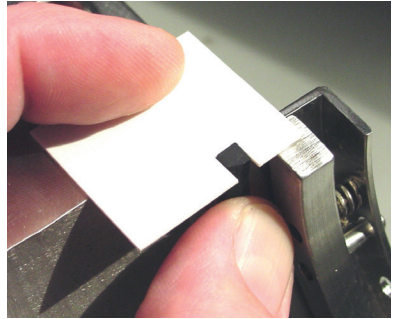

Figure 19
- 6.3 Check the gasket extension with the 0.030 inch (0.76 mm) "Proud" gauge. See Figure 19.